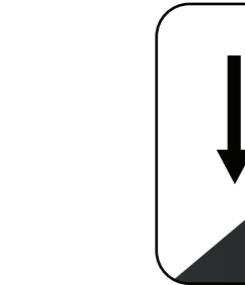

Fig 3
1. Press the On/Off button (10) the digital display will illuminate. The default inflation setting is **high pressure mode** (tire inflation). To change this, the inflator needs to be on. Press MODE high/low pressure selection button. (4) The inflator will switch to the other mode (low pressure) and the display will show a flowing arrow below the remaining battery capacity display, as shown below.
2. Remove and connect the low pressure hose onto the inflation port as shown (fig 3). Align the slots in the hose to the pins on the air output port and twist clockwise as far as it will turn to lock the hose on. Now connect the other end of the hose to the item to be inflated. If the item has a small air valve use the pinch valve adapter that is attached to the end of the low pressure hose. Insert this into the hose end and then into the item to be inflated, ensuring that the tip is inserted past the inner "flap" inside the valve of the item to be inflated.
3. Press the inflation start/stop button (1) to start inflating. Once inflation is complete remove and store the low pressure hose back into the mount on the inflator.